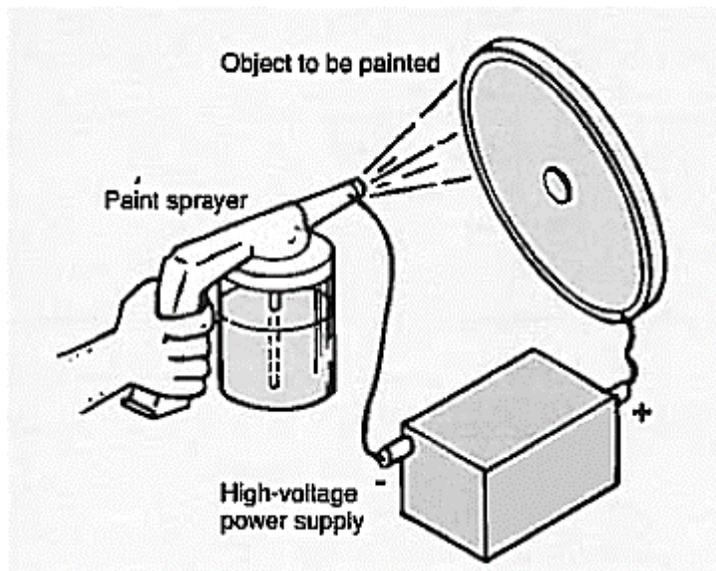

Figure 2.11: Electrostatic Paint Spraying
- 2-81 The object to be painted is charged either positively or negatively. The paint is given the opposite charge as seen in Figure 2.11. The paint is then attracted to the object, and covers it evenly.